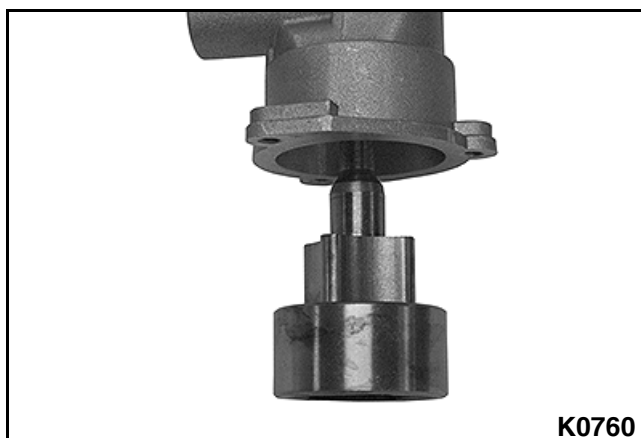

Figure 3-197
2. Install the driven and drive rotors to the pump body. **See Figure 3-197.**